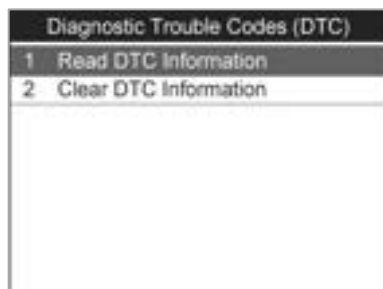

Figure 9.27
- 2) Use the **UP/DOWN** scroll button to select **Read DTC Information** and press the **OK** button (Figure 9.27).
- 2) Use the **UP/DOWN** scroll button to select **Clear DTC Information** and press the **OK** button (Figure 9.27).